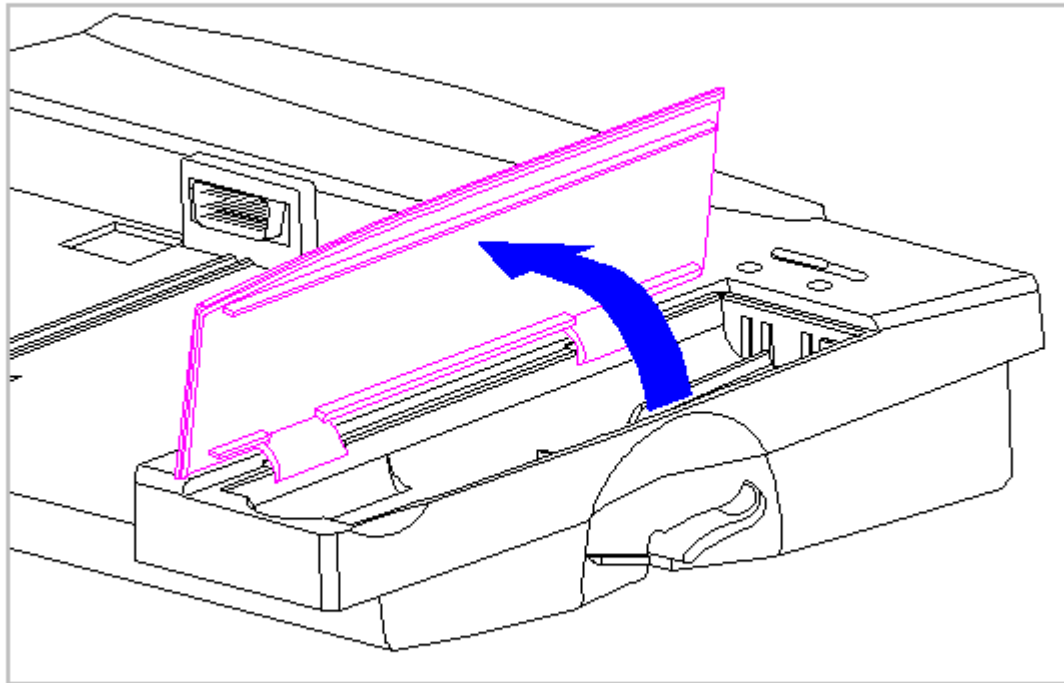

Figure 3-192. Opening the Battery Door (All Models)
1. Open the battery door until it is perpendicular to the docking base (Figure 3-192).